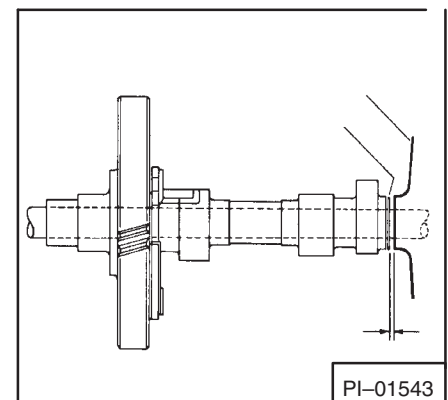

Fig. 50 Checking End Play
- d. Lubricate rod then insert into block (bearing plate side). Before pushing rod through camshaft, slip one .005" washer (end play) between end of camshaft (opposite gear end) and block. Push rod through camshaft and tap lightly until rod just starts into bore at P.O. end of block. Check end play with feeler gauge (Fig. 50) if within tolerance press rod into final position or remove rod and add (or subtract) .005 and .010" thick washers as necessary to attain proper end play (See Fits and Clearance Section).